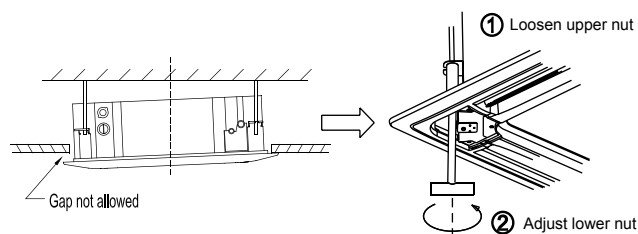

Fig.5-13
- If the gap between the panel and ceiling still exists after fastening the screws, the height of the indoor unit should be modified again. ( Refer to Fig.5-13-left)
- You can modify the height of the indoor unit through the openings on the panel's four corners, if the lift of the indoor unit and the drainpipe is not influenced (Refer to Fig.5-13-right).